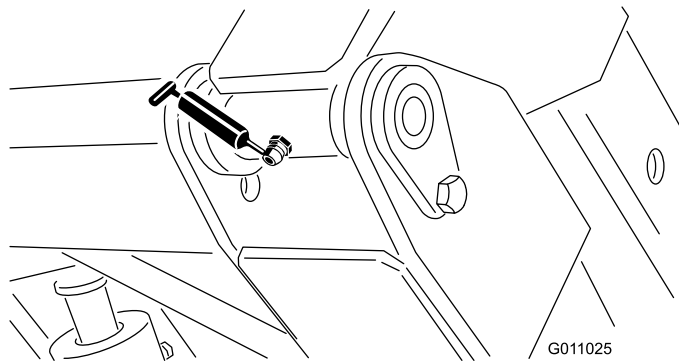

Figure 29
- Hopper pivot (upper) (2) (Figure 29).